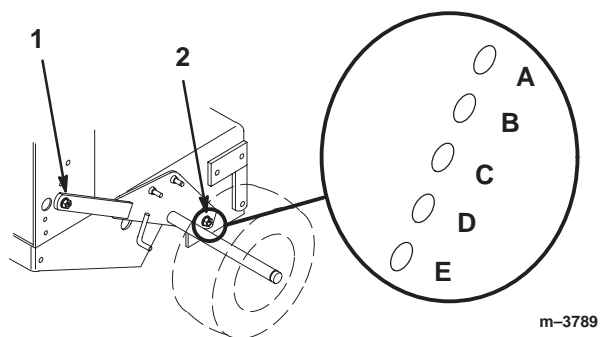

Figure 18
3. Loosen, but do not remove, the 2 axle pivot bolts and the 2 axle adjustment bolts (Fig. 18).
4. Place a jack under the rear center of the engine frame. Raise the back end of the engine frame up enough to remove the front 2 axle adjustment bolts (Fig. 18).
5. Raise or lower the engine frame with the jack so that you can install the front 2 axle adjustment bolts in the desired hole location (Fig. 18).